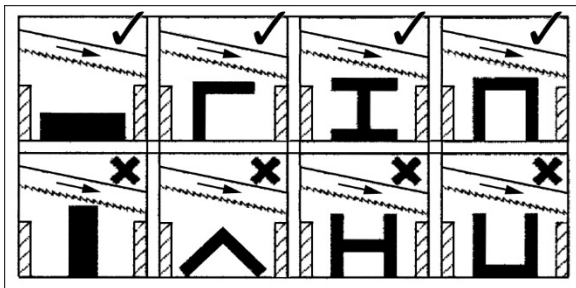

Figure 8-1: clamping positions
- Position workpiece in vise and tighten vise. Workpiece should be fitted directly between jaws without adding other objects. When workpiece is profiled section, flat piece or special shape, refer to examples in Figure 8-1 for proper clamping positions. The top row shows acceptable clamping positions, the bottom row shows **unacceptable** positions.